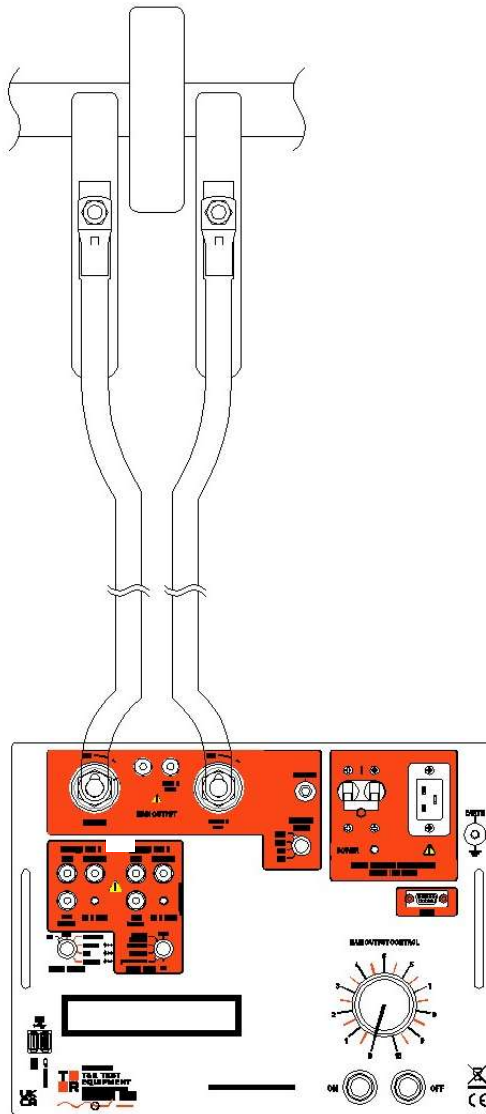

Figure 2.1 750ADM showing high current output connected to load
- Connect the test object to the desired output. An example connection is shown in figure 2.1 using the high current output.